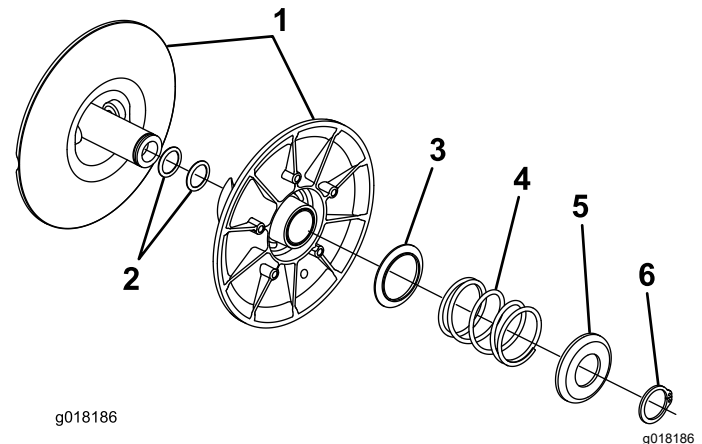

Figure 10
6. Turn the clutch around (Figure 10).
7. Using the spring-compression tool (TOR-6027), compress the outer-spring retainer and spring inward relieving pressure on the retaining ring (Figure 10).
9. Pull the 2 halves of the clutch apart (Figure 10).
10. Slide a shim onto the clutch shaft (Figure 10).